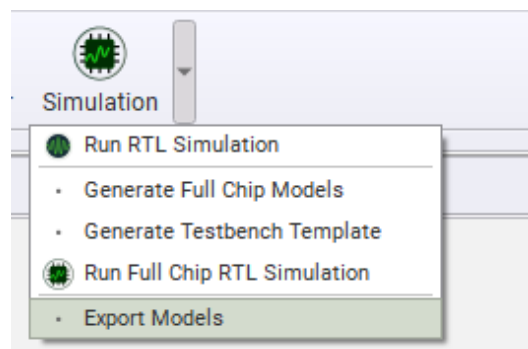

Figure 14. Export Models
3. Export Models – open the **Simulation** tab and select **Export Models** (Figure 14).